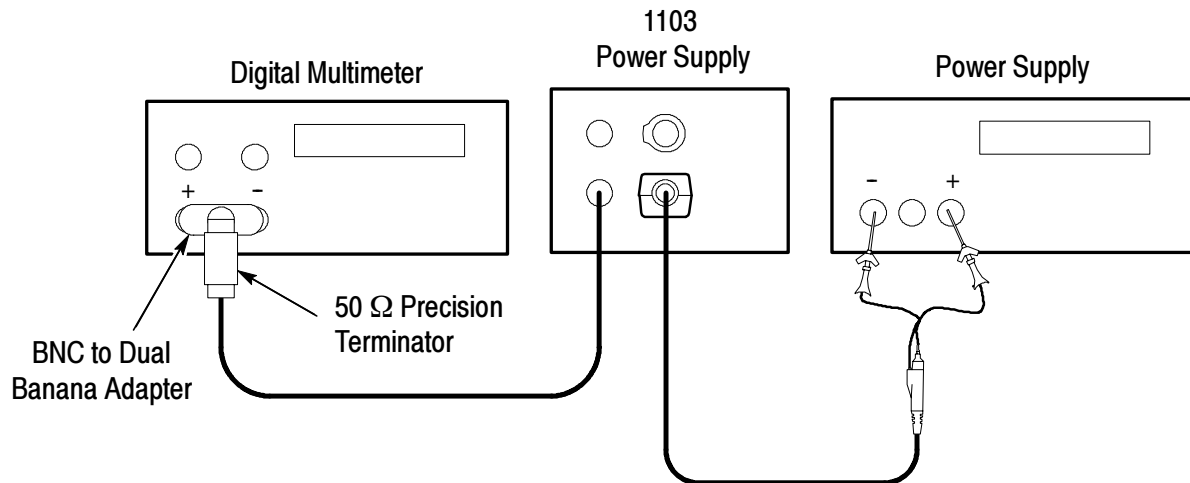

Figure 7: P6243 DC Attenuation Accuracy Setup
1. Connect the test equipment as shown in Figure 7.